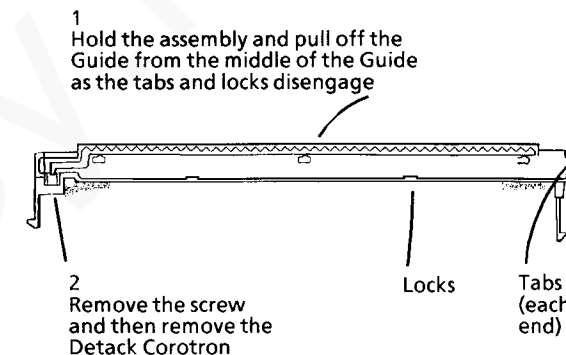

Figure 1. Removing the Detack Corotron
3. Remove the Detack Corotron (Figure 1).